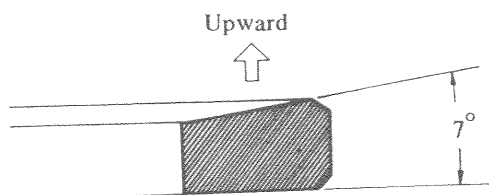

Fig. 7-3-4
- Both the 1st and 2nd rings are of wedge type in their sectional views as illustrated in Fig. 7-3-4 and the ring grooves on piston are machined according to the shape of the rings. Therefore, the ring should be placed in proper direction otherwise the piston will not fit in the cylinder. For identifying upside, a stamped letter is put on the inclined surface.